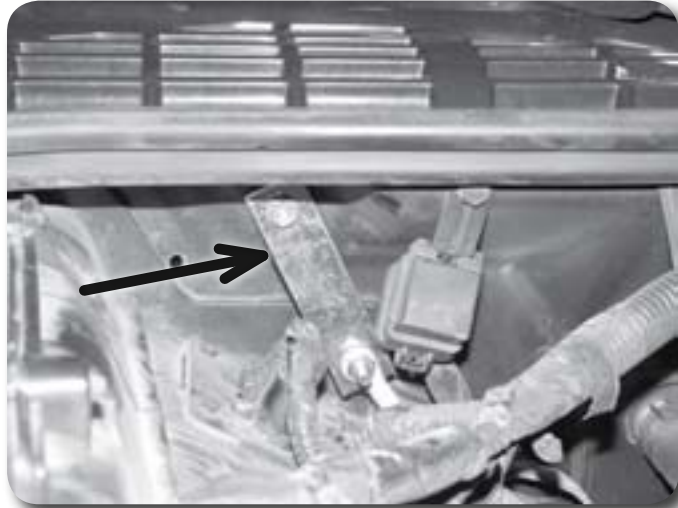

Figure 36
65. Install the provided ground strap extension on the ground stud at the passenger's side firewall and retain with the factory nut. Attach the ground strap to the bracket stud with a 1/4" nut and 1/4" SAE washer **Figure 36**.